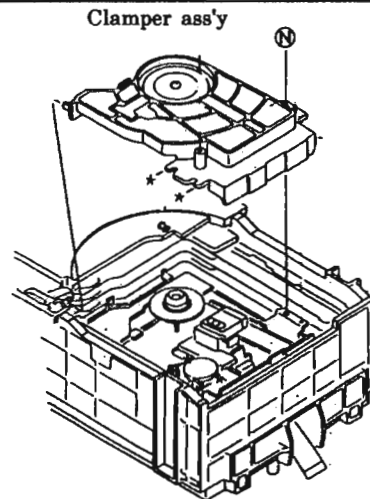

Fig.21
5. Remove a screw ⑤securing center of the clamper ass'y.(See Fig. 21)